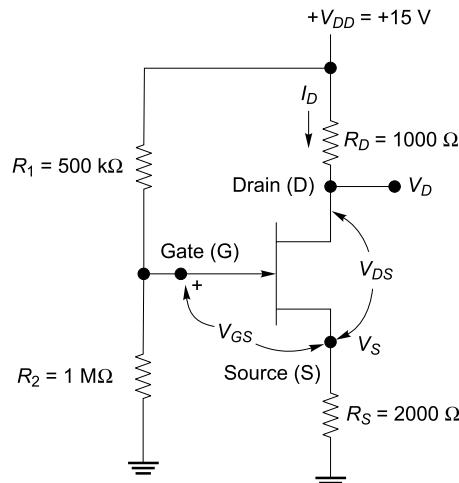

Fig. 1.70
- 1.10** A voltage divider biasing circuit of JFET is shown in Fig. 1.70. Determine the value of drain current I_D , gate to source voltage V_{GS} , and drain to ground voltage V_D when $I_{DSS} = 5 \text{ mA}$, $V_P = -6 \text{ V}$, $R_1 = 1000 \Omega$, $R_2 = 1500 \Omega$, $R_1 = 500 \text{ k}\Omega$, $R_2 = 1 \text{ M}\Omega$ and $V_{DD} = 15 \text{ V}$.